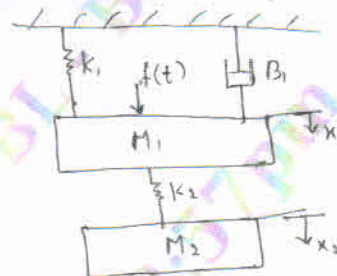

Fig. Q2 (b)
- b. Find the transfer function $\frac{X_2(s)}{F(s)}$ for the given mechanical system. Refer Fig.Q2 (b).